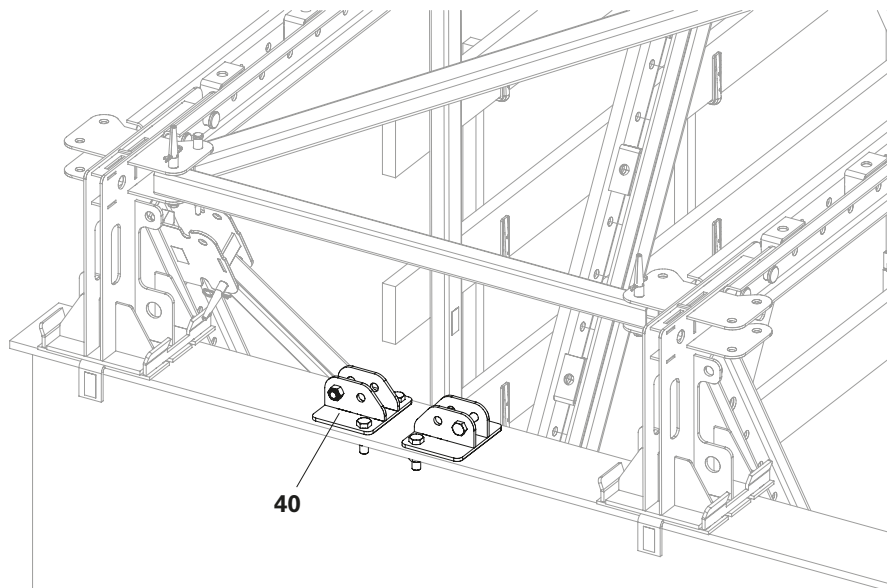

Fig. E3.02
3. Remove the H-Load Connector ATG **(40)**. (Fig. E3.02)